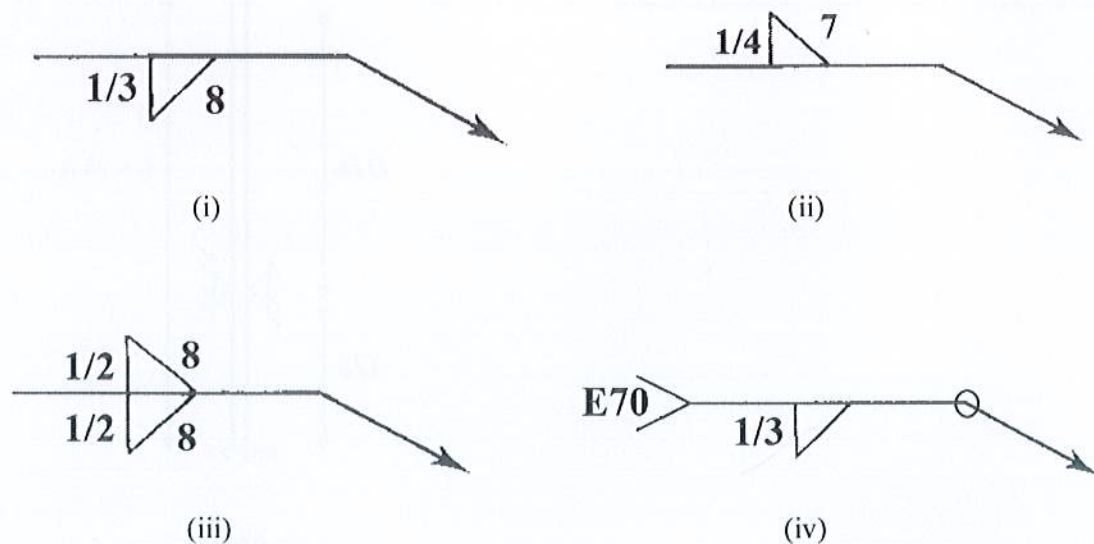

Figure 1
- (d) Explain all of the welding symbols (location, size, length, type and any other specification of welding) shown in **Figure 1**. [10]